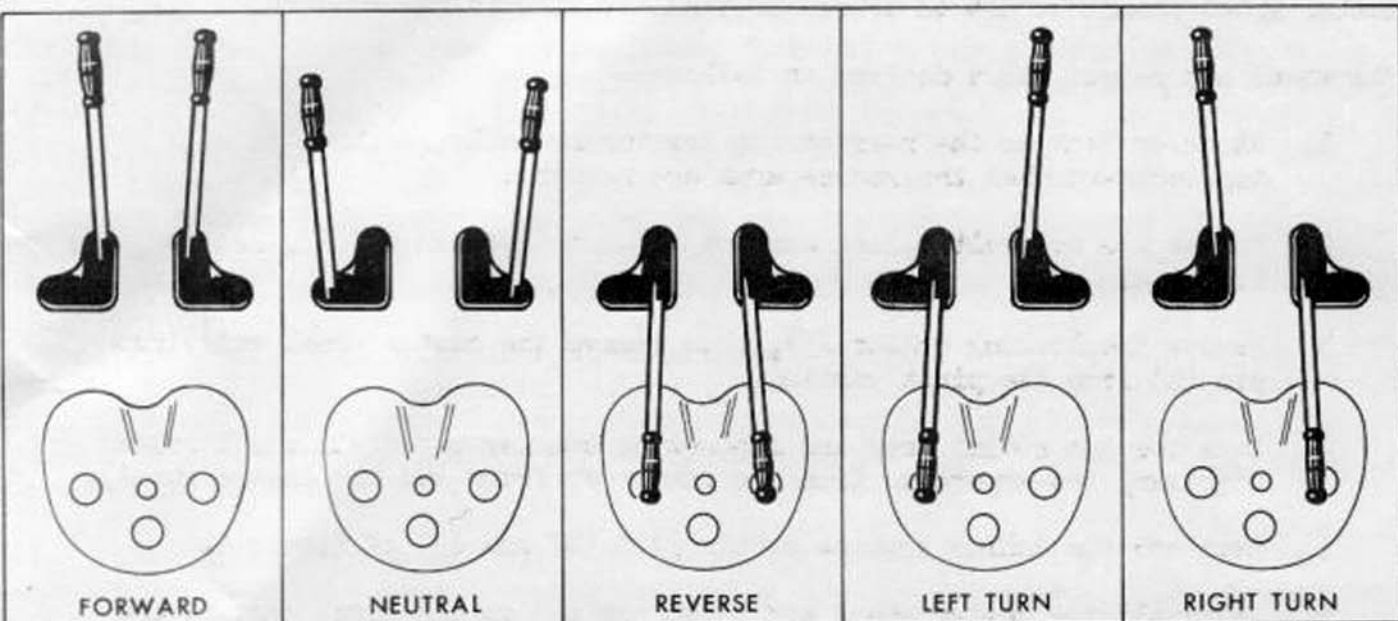

Figure 3
- A. Steering Control Levers - Control the forward, neutral, reverse, left turn and right turn operation of the windrower. (See Figure 3)
neutral position. (See Figure 3.)
- c. Start the engine and set the throttle lever to maintain the desired engine speed. Engage the variable speed control lever partially to obtain a slow ground speed, then operate the steering control levers as shown in Figure 3.
- a. Stop the engine and set the steering levers in the forward position. (see Figure 3)